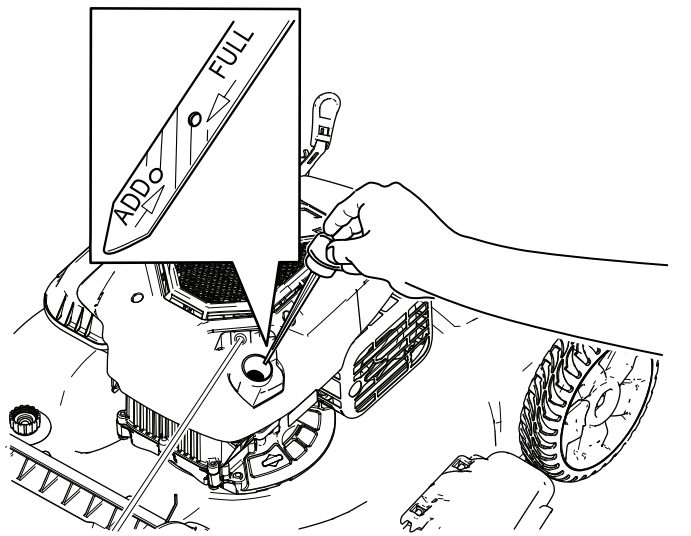

Figure 6
2. Remove the dipstick by rotating the cap counterclockwise and pulling it out (Figure 6).
6. Read the oil level on the dipstick (Figure 6).